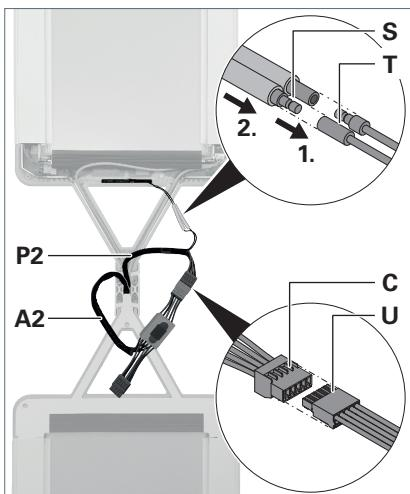

Fig. 15: Connecting the supply cables, connecting the aerial.
- Connect the supply cable **P2** from the column to the supply cable **A2** of the stranded wire set by inserting the socket strip **U** into the pin strip **C**, see Fig. 15.